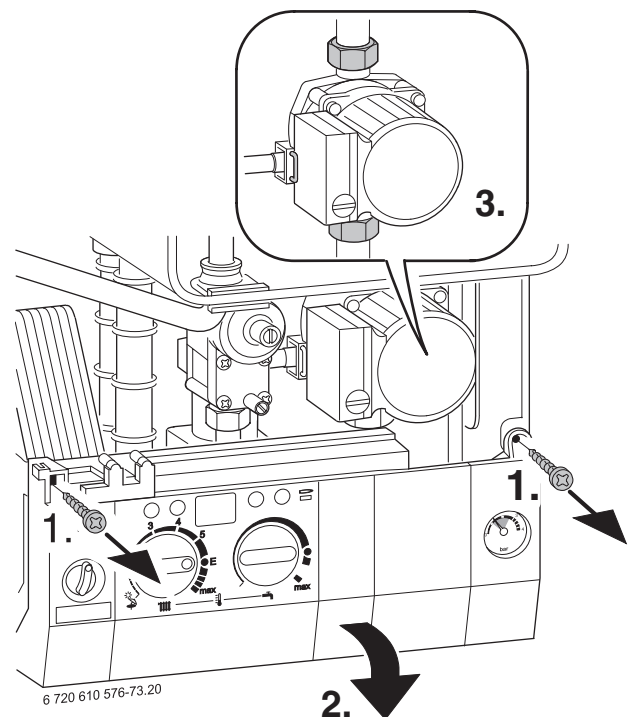

Fig. 61
- ▶ Remove two switchbox fixing screws (1.). Refer to fig. 61.
- ▶ Unscrew the pump union nuts (3.). Refer to fig. 61.
- ▶ Lower the control panel. Refer to fig. 61.
- ▶ Lower the facia. Refer to fig. 61.
- ▶ Undo the top connection of the pump. Refer to fig. 61.